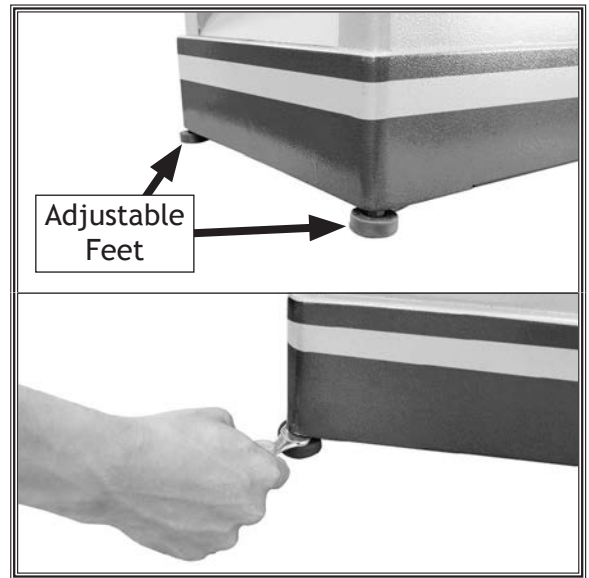

Figure 13. Stabilizing jointer.
- Adjust feet (see Figure 13) as necessary until jointer is stable without any rocking or wobbling.